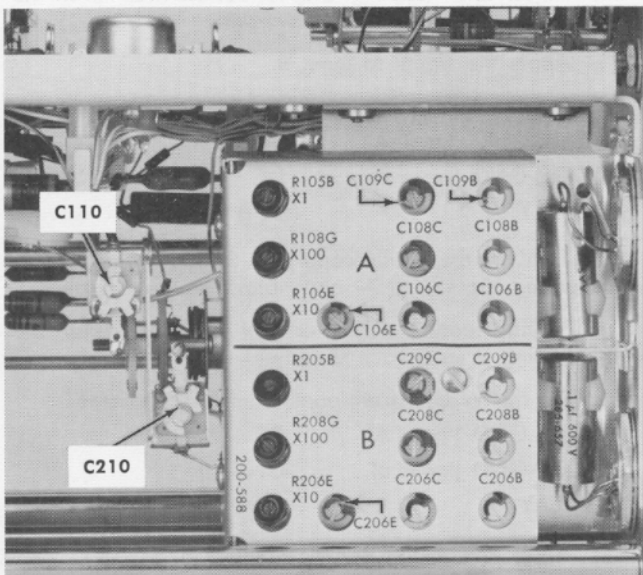
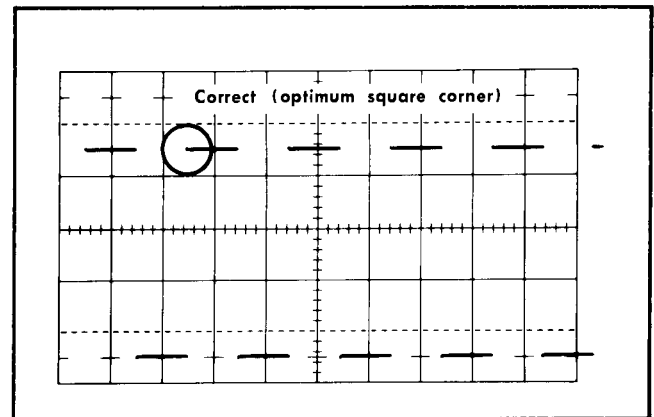

Fig. 5-5. Location of input time constant standardization and attenuator adjustments.
Fig. 5-8. Standardizing the 1X input time constant of input A.
k. Adjust R106E (see Fig. 5-5) to return the trace to graticule center.
f. Adjust R108G (see Fig. 5-5) to position the trace to coincide with graticule center.
- g. Adjust R105B (see Fig. 5-5) to obtain a null reading on the non-loading voltmeter.
- e. Adjust R206E (see Fig. 5-5) to return the trace to graticule center.
- d. Adjust R208G (see Fig. 5-5) to center the trace.
- i. Adjust R205B (see Fig. 5-5) to obtain a null reading on the non-loading voltmeter.
- e. Adjust C210 (see Fig. 5-5) for best lower front corner on the square-wave display (see Fig. 5-7a). Figs. 5-7b and 5-7c show effect obtained when C210 is incorrectly adjusted.
- d. Adjust C110 (see Fig. 5-5) for best upper front corner on the square-wave display (see Fig. 5-8).